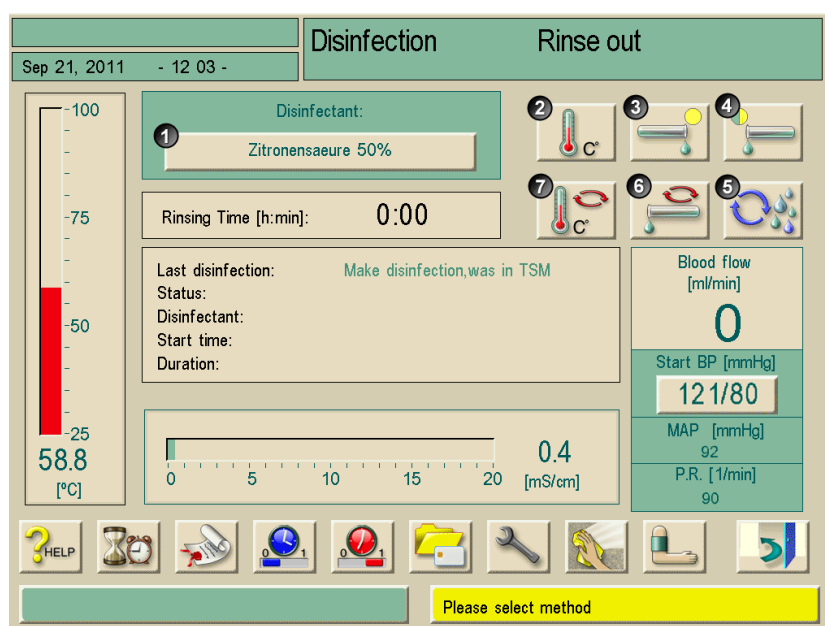

Fig. 11-1 Selection of Disinfection program
- Touch icon in Disinfection mode (see Fig. 11-1)